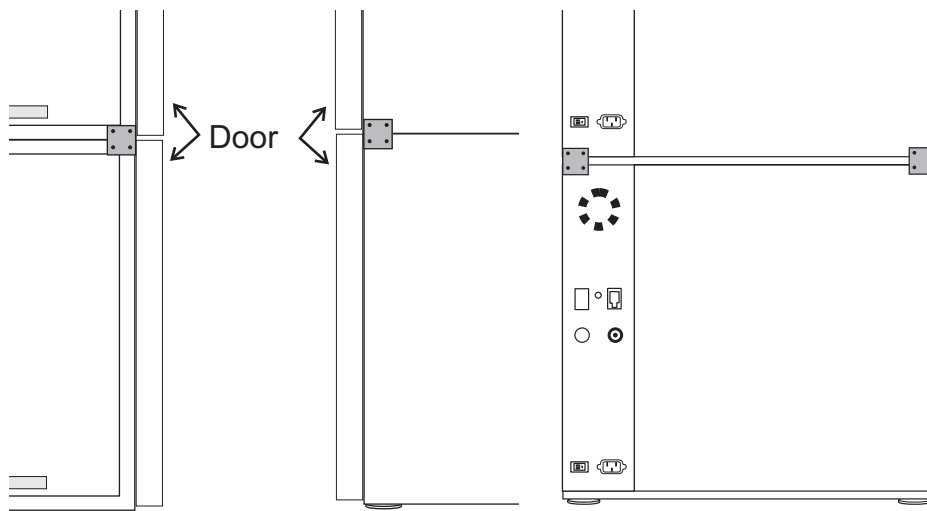

Figure 1-6. Sides and Back of Stacked Units
2. Remove the hole plugs from the stacking bracket holes (Figure 1-6).